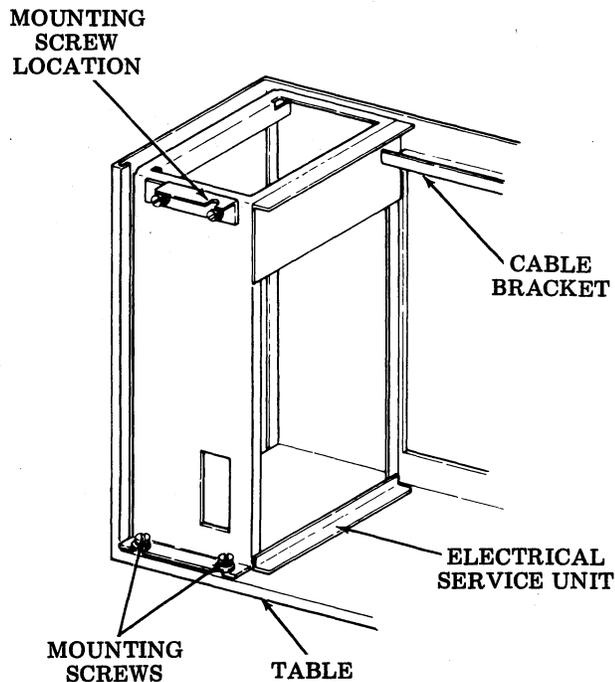
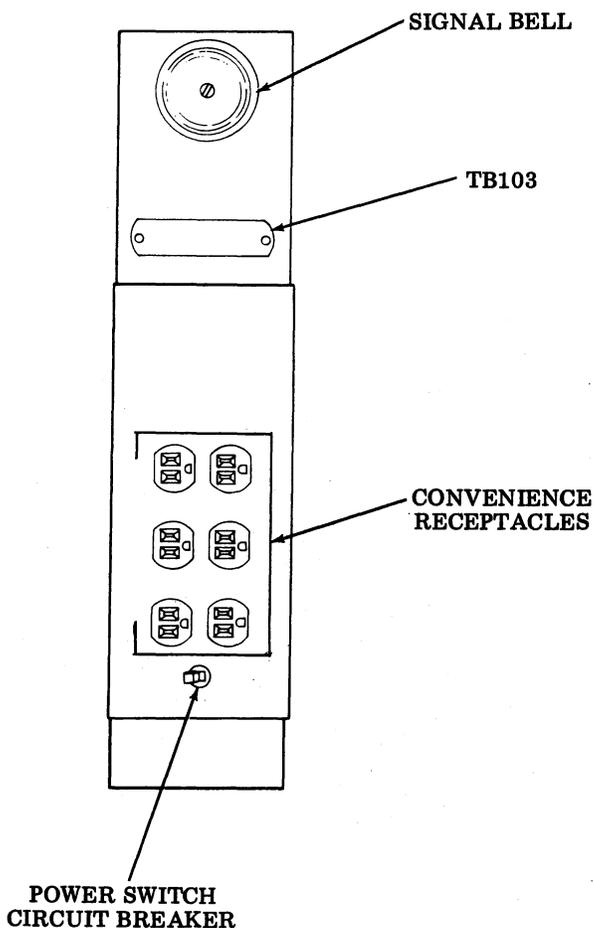

Figure 24 - ESU Mounted in Table
Figure 23 - 37 Utility Strip
4.31 The utility strip (Figure 23), if used, and the electrical service unit (ESU) are exposed when the front panel on the table is removed (2.04). To gain easier access to the circuit cards and answer-back unit (optional), the electrical service unit may be removed from the table. To remove the ESU, refer to Figure 24 and proceed as follows:
26. Replace the electrical service unit, install the three mounting screws on the front plate, and route the cables over the bracket on the back panel (Figure 24). Route the power supply cable from the utility strip (Figure 23) through the oblong opening in the base of the table. **DO NOT CONNECT THE POWER CABLE AT THIS TIME.** If equipped with a utility strip, check to insure that the power cable from the electrical service unit is connected to an outlet on the utility strip.